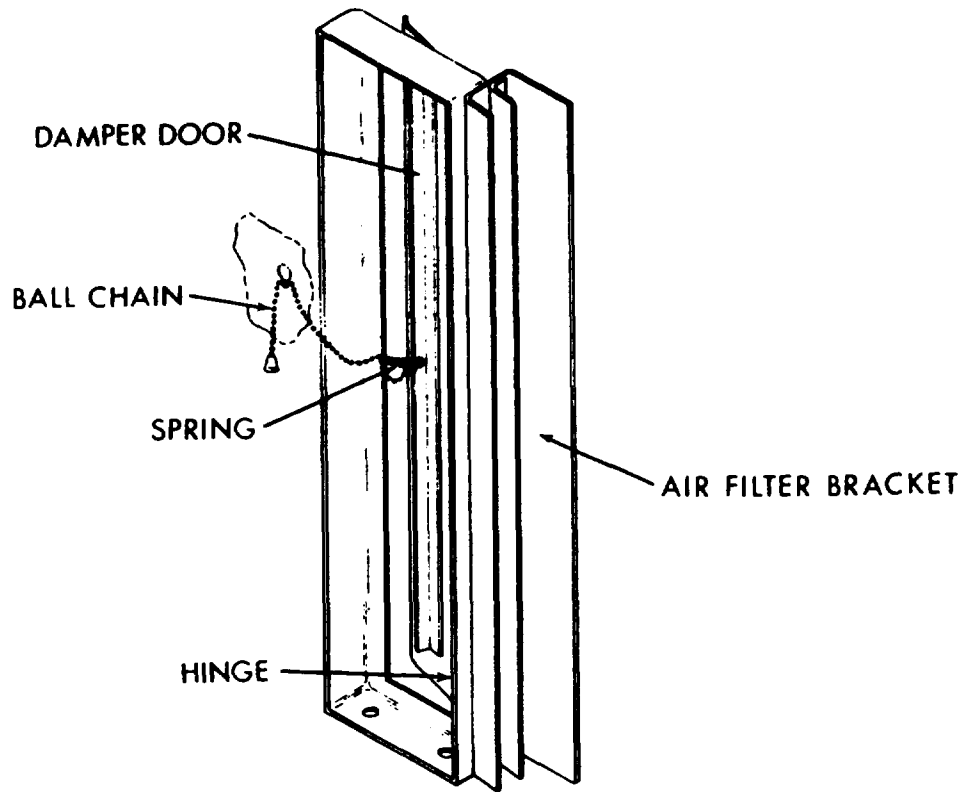

Figure 4-8. Fresh Air Damper Details.
(1) Place the left-hand edge of the filter in the channel at the left side of the evaporator air intake chamber. Install the retaining strip on the right-hand side of the filter, and secure with two screws.
(2) Position air intake grille on the front of the air conditioner. Secure it by turning six cam-lock studs in the frame counterclockwise.
4.17. Fresh Air Damper Control (See figure 4-8).